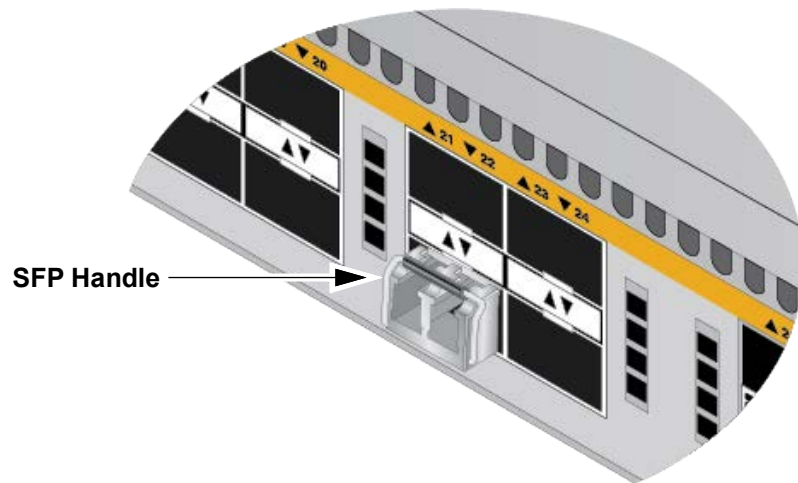

Figure 37. Positioning the SFP28 or SFP+ Handle in the Upright Position
5. Verify the position of the handle on the transceiver. The transceiver handle should be in the upright position, as shown in Figure 37.